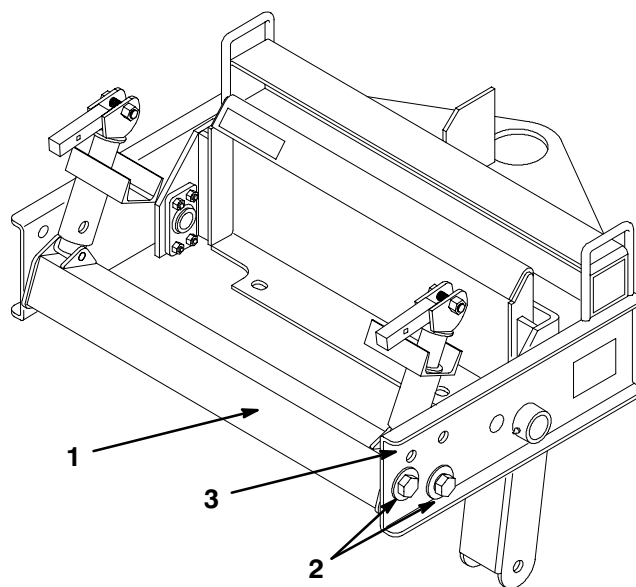

Figure 6
1. Remove the four bolts securing the crossbar (Fig. 6).
2. Reposition the cross bar at the upper holes (Fig. 6).